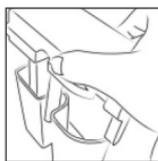

Fig. 2
- Take the container (12) and pull it towards you (fig. 1), remove the cappuccinator lid (10) from the container (12) (fig. 2). Fill the container (12) with water to the maximal level mark.